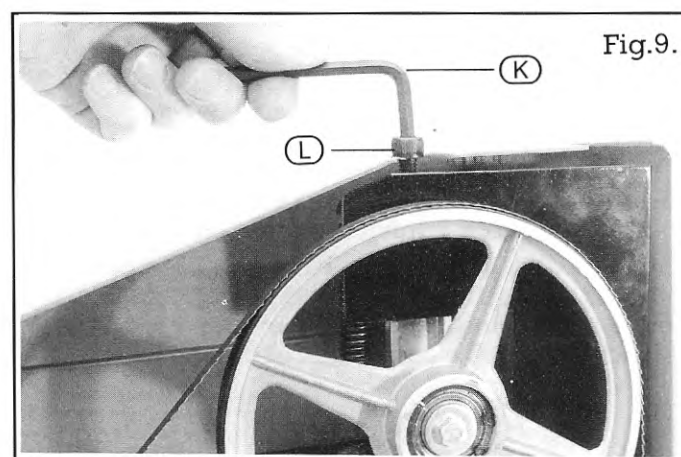

Fig.9.
5. Loosen locking screw (I) and adjust the lower support bearing (J) away from the blade (Fig.9).
6. Using the hex key supplied (K) turn the blade-tensioning bolt (L) clockwise to decrease the blade tension (Fig.9).
8. Turn the tensioning bolt (L) anticlockwise until the blade is tensioned.